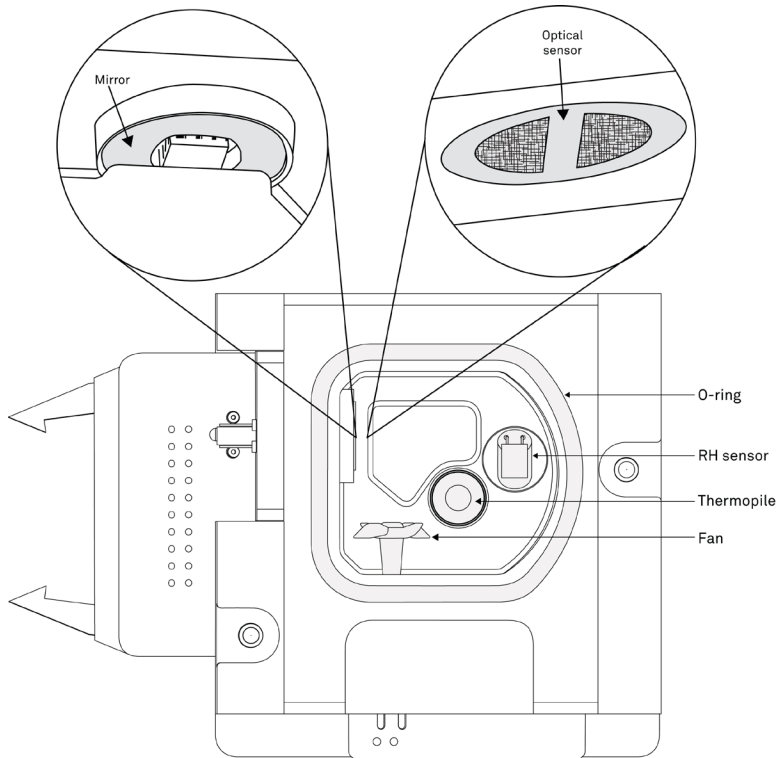

Figure 99 View of inside of removed sensor block
7. Turn the sensor block over so the sensor chamber area is visible, and clean the sensors and sensor block (Figure 99).